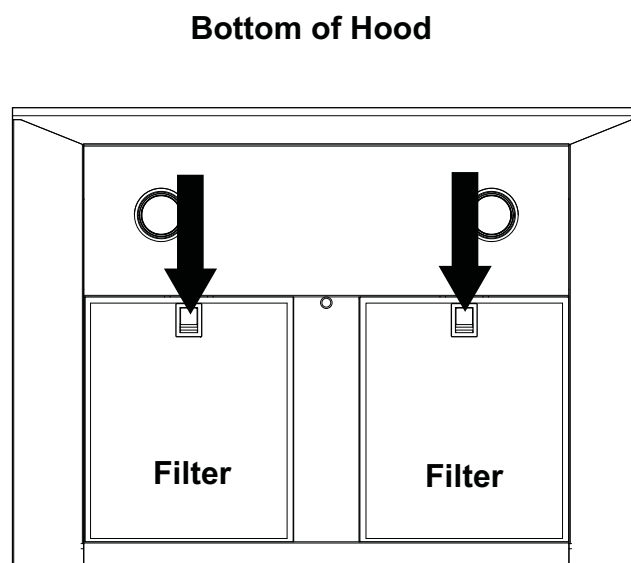

Figure 3-2. Filter Removal
1. Push plastic tab on front end of Filter toward rear of Hood and gently pull down. (See Figure 3-2)